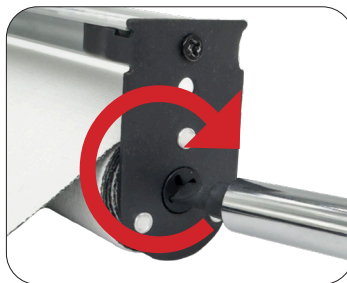
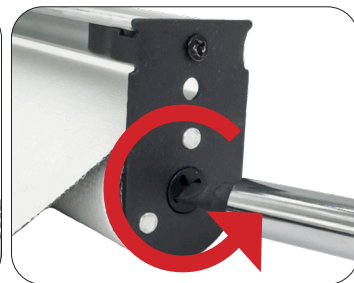

Fig. 3
Fig. 4
- Remove brackets by pressing clear button. (Fig. 2) Install the mounting brackets at the desired position. (Fig. 3)
- Clip the back of the head rail onto the mounting brackets, and snap into place. (Fig. 4)
The Tensioning Device controls the upward speed. To make an adjustment, locate the flathead screwdriver slot on the left end of shade. Using a flathead screwdriver, turn the dial clockwise (left side end view) to increase speed. (Fig. 3) Turn counter clockwise to decrease speed. (Fig. 4)